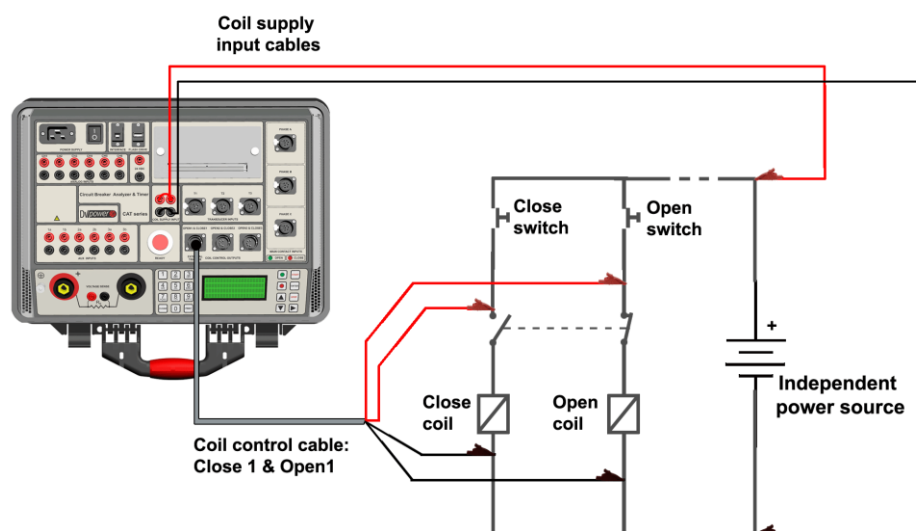

Figure 3. Connection diagram of the coil control cables for three-pole operated circuit breakers with independent power supply used as a power source for coils
In case when some independent external power source (e.g. SAT or POB) is used as voltage supply for coils or when there is no permanent minus of voltage supply at coils (e.g. since there is control switches at both sides of coil) in case of substation battery supply, the connection diagram is as shown in the Figure 3. Coil supply inputs should also be short-circuited for CAT devices having two isolated Coil supply inputs.
- Connect the Coil supply input of the CAT device to power supply intended for the control circuit supply (as shown in the Figure 3).